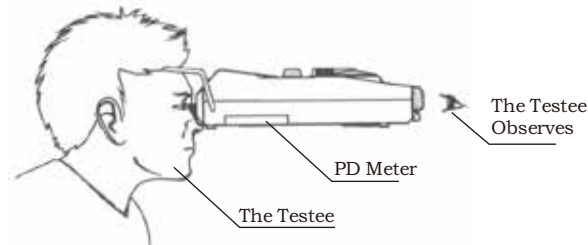

Fig.6
b. Put the forehead bearer lightly on the testee's forehead, and nose bearer lightly on testee's nose bridge, then keep the device in a horizontal state(as shown in Fig.6).